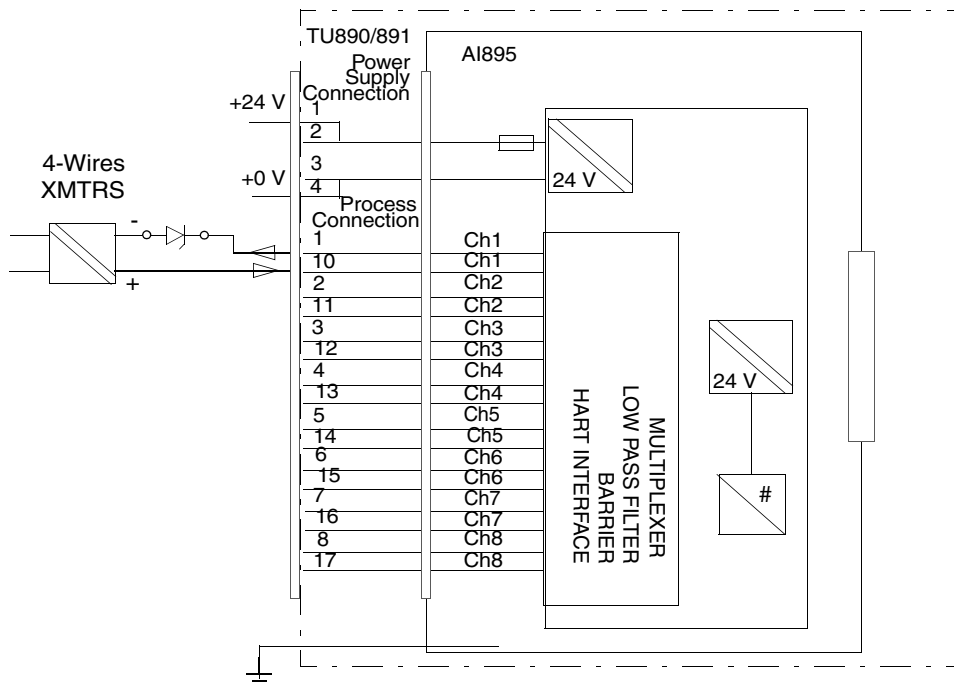

Figure 11. AI895 Connection of 4-Wires Transmitter
The AI895 Analog Input Module can directly interface 2-wire transmitters and with a particular connection it can also interface 4-wire transmitters without losing the HART capability, see Figure 11.
- Connection polarity must be observed as in Figure 11 (it is different to the standard 2-wire connection).